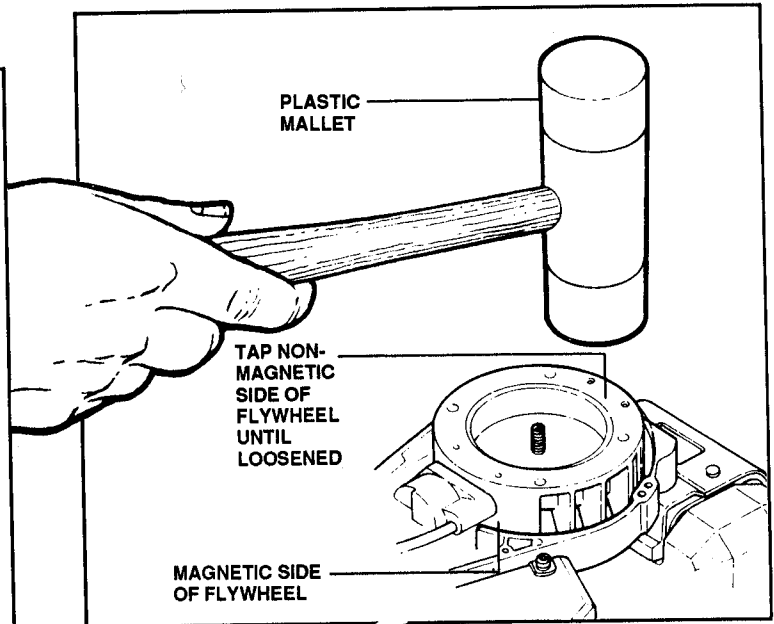

FIGURE 7
- Remove the flywheel by holding the engine slightly off the table and tapping the non-magnetic side of the flywheel with a plastic hammer. Once loosened, pull the flywheel off the crankshaft. See Figure 7.